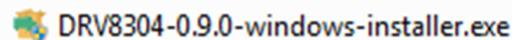

Figure 12. DRV8304 Firmware Installer Executable File
- Step 1. Double click the executable file (.exe) for the DRV8304 reference software installer (see Figure 12).